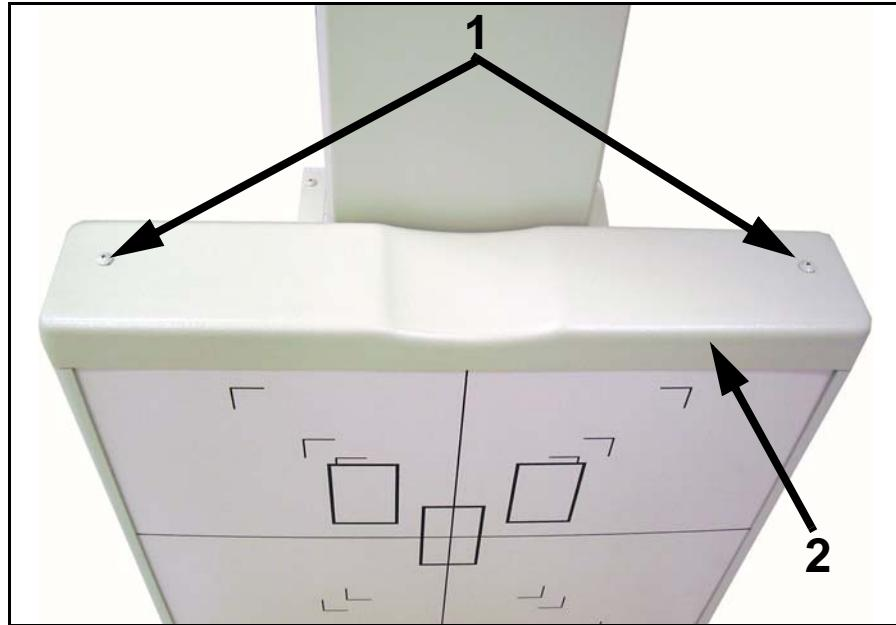

Figure 6-10. Top Cover Screws
- 1 Unscrew two top cover screws (1 in Figure 6-10) and remove top cover (2).